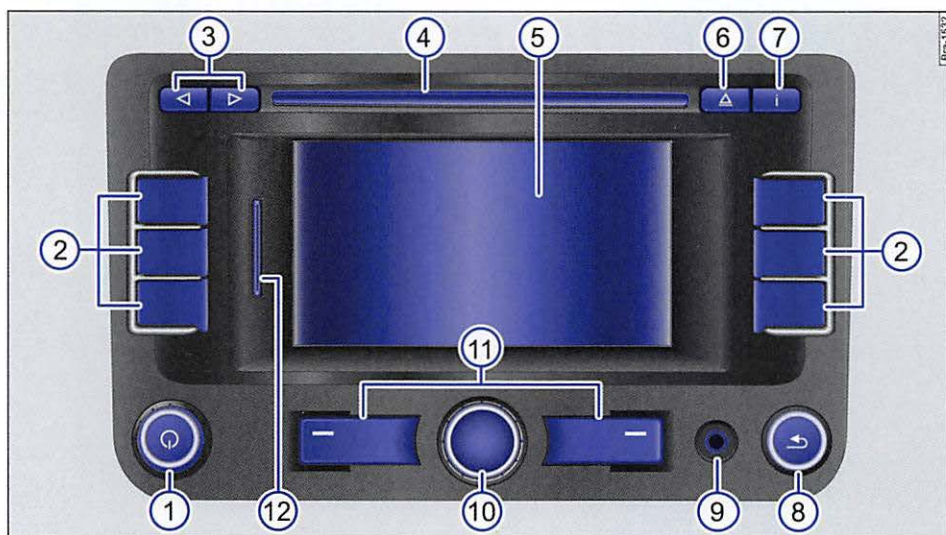
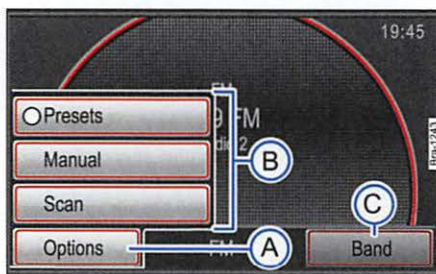

Fig. 1 Overview of the controls.
Fig. 2 RADIO main menu with pop-up window.
- Briefly press the rotary and push button  ⇒ fig. 1 to manually turn the device on or off.
Increase volume.	Turn the volume control ⇒ fig. 1 clockwise or press the corresponding button on the multi-function steering wheel ⇒ booklet Owner's manual , chapter Vehicle Overview .
- **OR:** If available on the device, briefly press the **MUTE** ⇒ fig. 1 ② or **PHONE** ¹⁾ device button.
The left rotary and push button $\Rightarrow$ fig. 1  is designated as Volume control  or On-Off switch.
The center rotary and push button $\Rightarrow$ fig. 1  is designated as the **Tuning knob**.
Underneath the screen are two unlabeled device buttons $\Rightarrow$ fig. 1 . Operation and function correspond to the respective function buttons $\Rightarrow$ fig. 2  and  shown on the screen above.